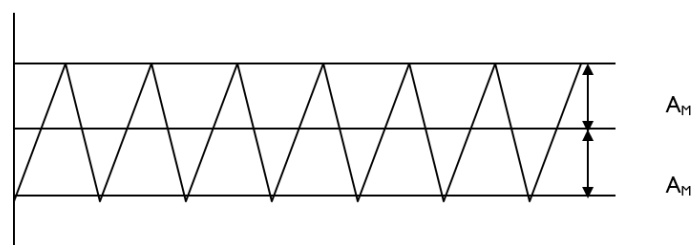

Figure 5.17.1: Carrier wave
Amplitude Modulation (AM) is a method used in communication to send information, like voice or music, over long distances using radio waves. In AM, we change the strength (amplitude) of a high-frequency wave called the carrier wave. This carrier wave is produced by a part of the circuit called the RF oscillator (radio frequency oscillator). On its own, the carrier wave carries no useful message. It is like a car without passengers. The actual information (like someone's voice or a song) is called the modulating signal. This signal is "placed onto" the carrier wave using a process called modulation. The result is a new wave, the AM signal that carries both the high-frequency wave and the original message. This AM signal can now travel through the air and be picked up by a radio receiver far away, where the message (voice, music, etc.) is recovered and played. **Figure 5.17.1** shows the carrier wave, input signal and modulated signal.
Figure 5.17.1 shows what happens when we use Amplitude Modulation (AM) to send a message (like sound or music) using a carrier wave. The middle wave (zigzag lines with equal height) is the carrier wave. It is a high-frequency wave that does not carry any information on its own. Think of it like a "vehicle" with no passengers. The top and bottom lines show the modulating signal; this is the actual message (like a person talking into a microphone).